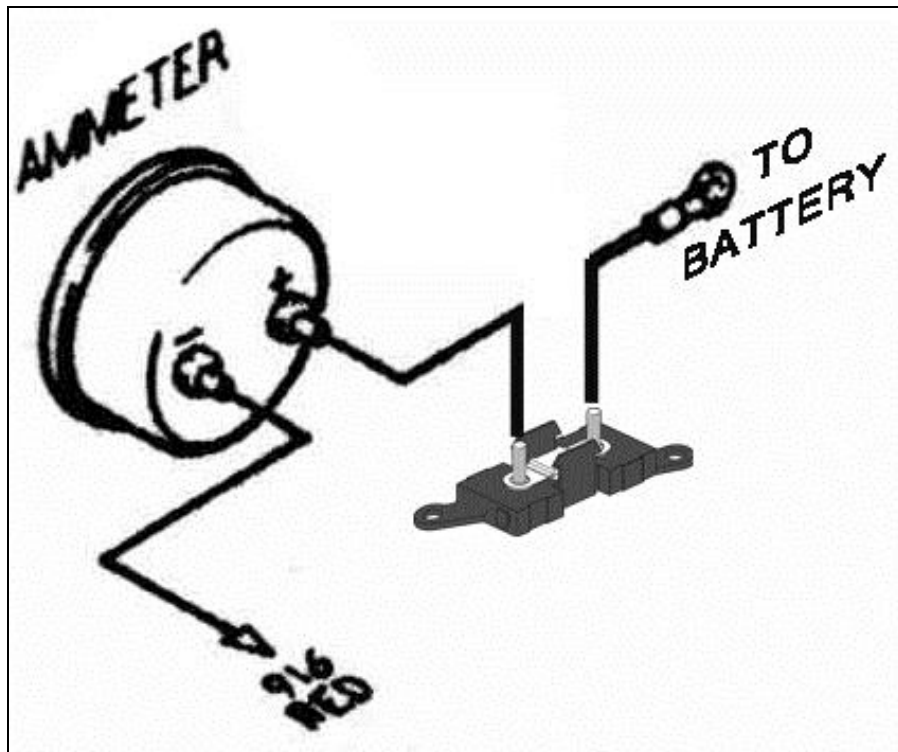

Figure 7.5 Ammeter and MIDI-Fuse
7.5 CONNECTING AN AMMETER AND MIDI FUSE (SEE FIGURE 7.5 AND 7.6)
Note: *Hazard Lights are not stock, this wire has been installed so that you may install them. (See Figure 7.5)*